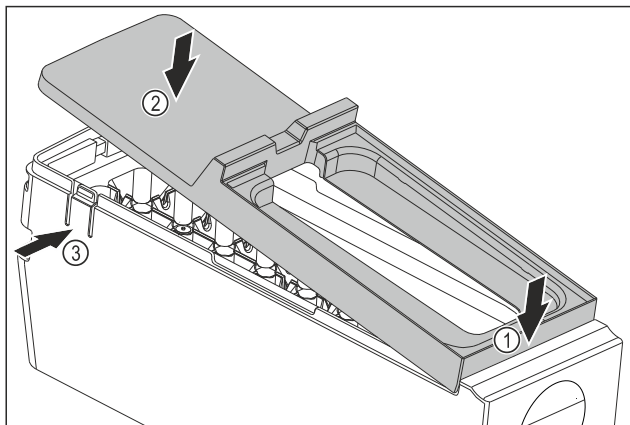

Fig. 86
- ▶ Installing the EasyTwist-Ice body cover: Place the cover on the front. Fig. 86 (1)
- ▶ Lower the cover at the rear. Fig. 86 (2)
- ▷ The cover locks into both tabs Fig. 86 (3) audibly.